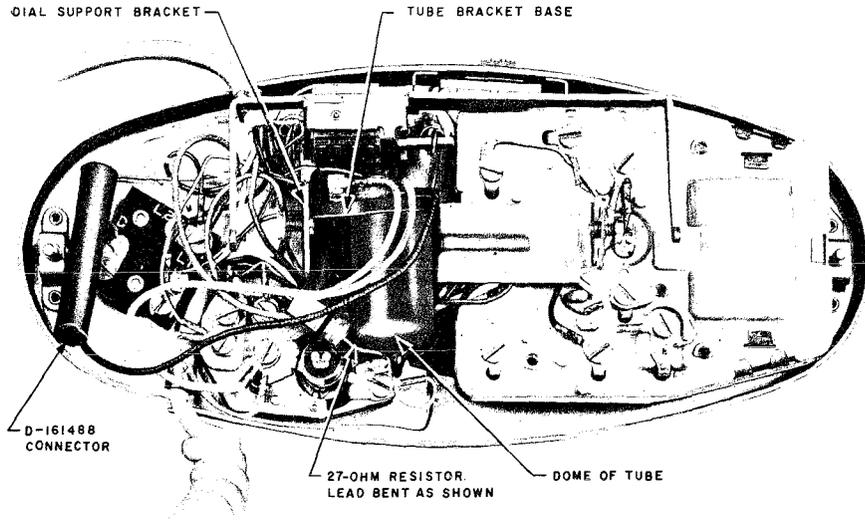

Fig. 15 — Location of Cold-Cathode Tube in 701B Telephone Set
6. Place the tube in space below dial with dome of tube toward night-light socket and base of plastic tube bracket against dial support bracket (see Fig. 15).